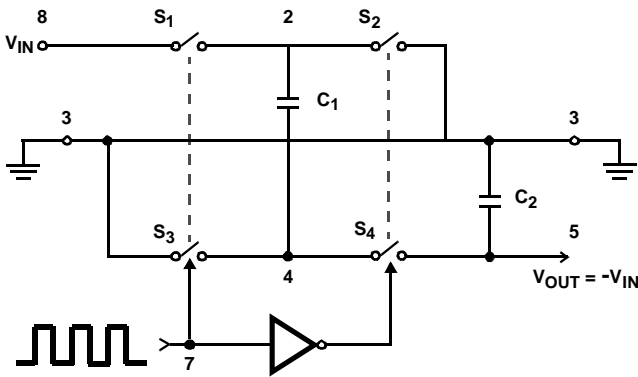
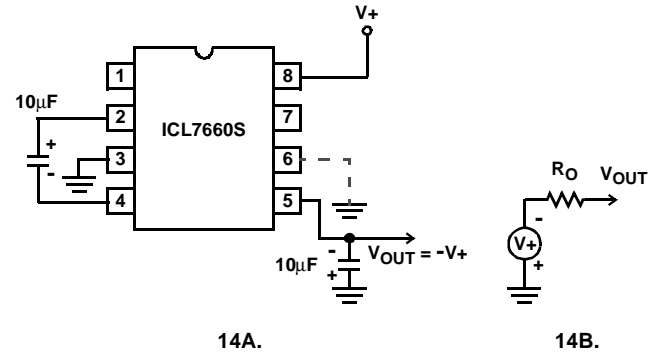
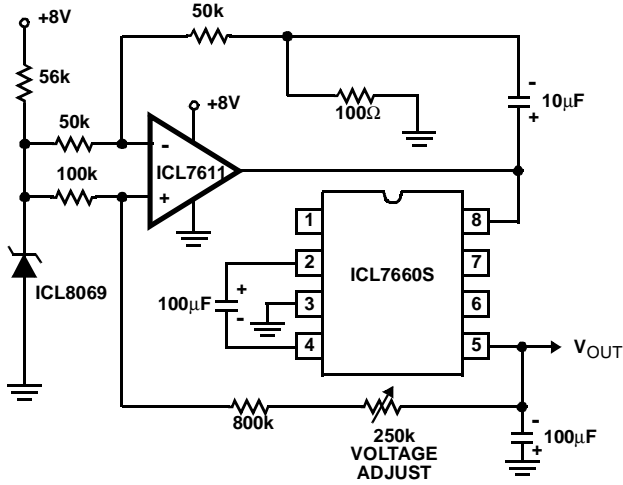
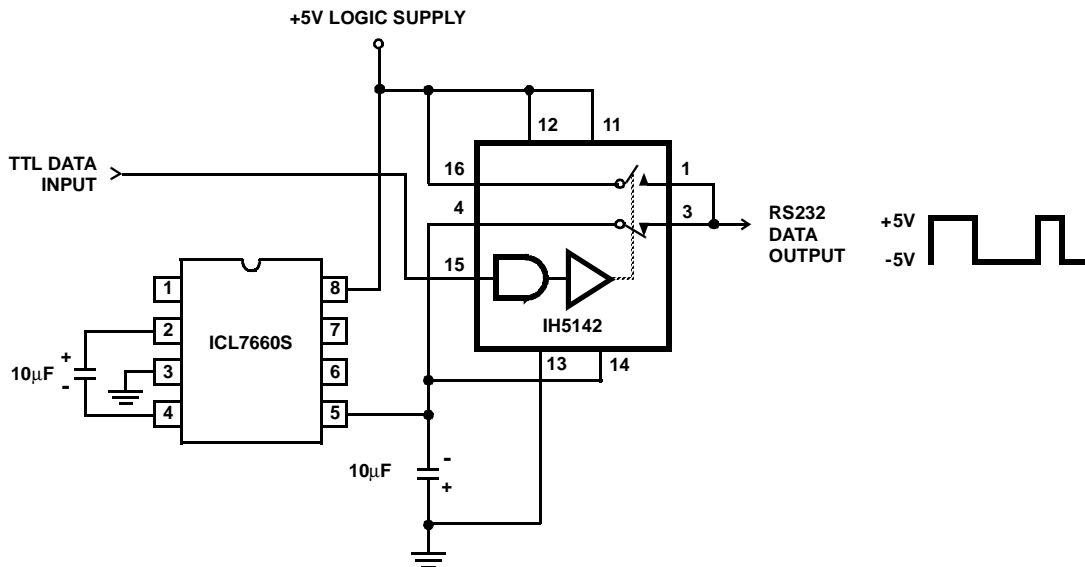

FIGURE 13. IDEALIZED NEGATIVE VOLTAGE CONVERTER
FIGURE 14. SIMPLE NEGATIVE CONVERTER AND ITS OUTPUT EQUIVALENT
FIGURE 20. REGULATING THE OUTPUT VOLTAGE
FIGURE 21. RS232 LEVELS FROM A SINGLE 5V SUPPLY
The ICL7660S contains all the necessary circuitry to complete a negative voltage converter, with the exception of 2 external capacitors which may be inexpensive 10 μ F polarized electrolytic types. The mode of operation of the device may be best understood by considering Figure 13, which shows an idealized negative voltage converter.
In the ICL7660S, the 4 switches of Figure 13 are MOS power switches; S_1 is a P-Channel devices and S_2 , S_3 and S_4 are N-Channel devices. The main difficulty with this approach is that in integrating the switches, the substrates of
where V_1 and V_2 are the voltages on C_1 during the pump and transfer cycles. If the impedances of C_1 and C_2 are relatively high at the pump frequency (refer to Figure 13) compared to the value of R_L , there will be substantial difference in the voltages V_1 and V_2 . Therefore it is not only desirable to make C_2 as large as possible to eliminate output voltage ripple, but also to employ a correspondingly large value for C_1 in order to achieve maximum efficiency of operation.
The majority of applications will undoubtedly utilize the ICL7660S for generation of negative supply voltages. Figure 14 shows typical connections to provide a negative supply where a positive supply of +1.5V to +12V is available. Keep in mind that pin 6 (LV) is tied to the supply negative (GND) for supply voltage below 3.5V.
The output characteristics of the circuit in Figure 14 can be approximated by an ideal voltage source in series with a resistance as shown in Figure 14B. The voltage source has a value of $-(V^+)$. The output impedance (R_O) is a function of the ON resistance of the internal MOS switches (shown in Figure 13), the switching frequency, the value of C_1 and C_2 , and the ESR (equivalent series resistance) of C_1 and C_2 . A good first order approximation for R_O is:
The ICL7660S may be employed to achieve positive voltage doubling using the circuit shown in Figure 20. In this application, the pump inverter switches of the ICL7660S are used to charge C_1 to a voltage level of $V+ - V_F$ (where $V+$ is the supply voltage and V_F is the forward voltage on C_1 plus the supply voltage ($V+$) is applied through diode D_2 to capacitor C_2 . The voltage thus created on C_2 becomes $(2V+) - (2V_F)$ or twice the supply voltage minus the combined forward voltage drops of diodes D_1 and D_2 .
Figure 21 combines the functions shown in Figure 14 and Figure 20 to provide negative voltage conversion and positive voltage doubling simultaneously. This approach would be, for example, suitable for generating +9V and -5V from an existing +5V supply. In this instance capacitors C_1 and C_3 perform the pump and reservoir functions respectively for the generation of the negative voltage, while capacitors C_2 and C_4 are pump and reservoir respectively for the doubled positive voltage. There is a penalty in this configuration which combines both functions, however, in that the source impedances of the generated supplies will be somewhat higher due to the finite impedance of the common charge pump driver at pin 2 of the device.